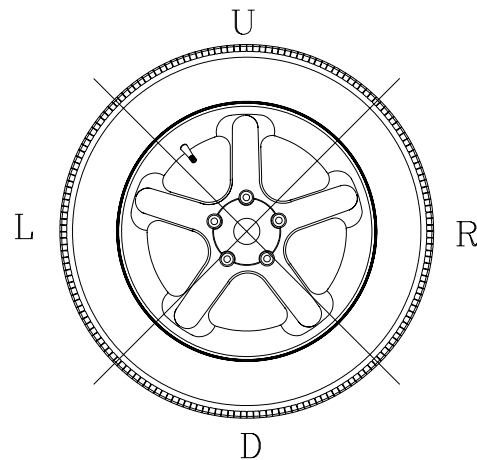

Figure 14
C. The wheel weight could have been placed at a wrong position. To check this, position the wheel at the correction position for the outer plane. If the wheel weight previously attached is in sector 'L' or 'R' (Figure 14), move the wheel weight up about 1" (2.54cm).